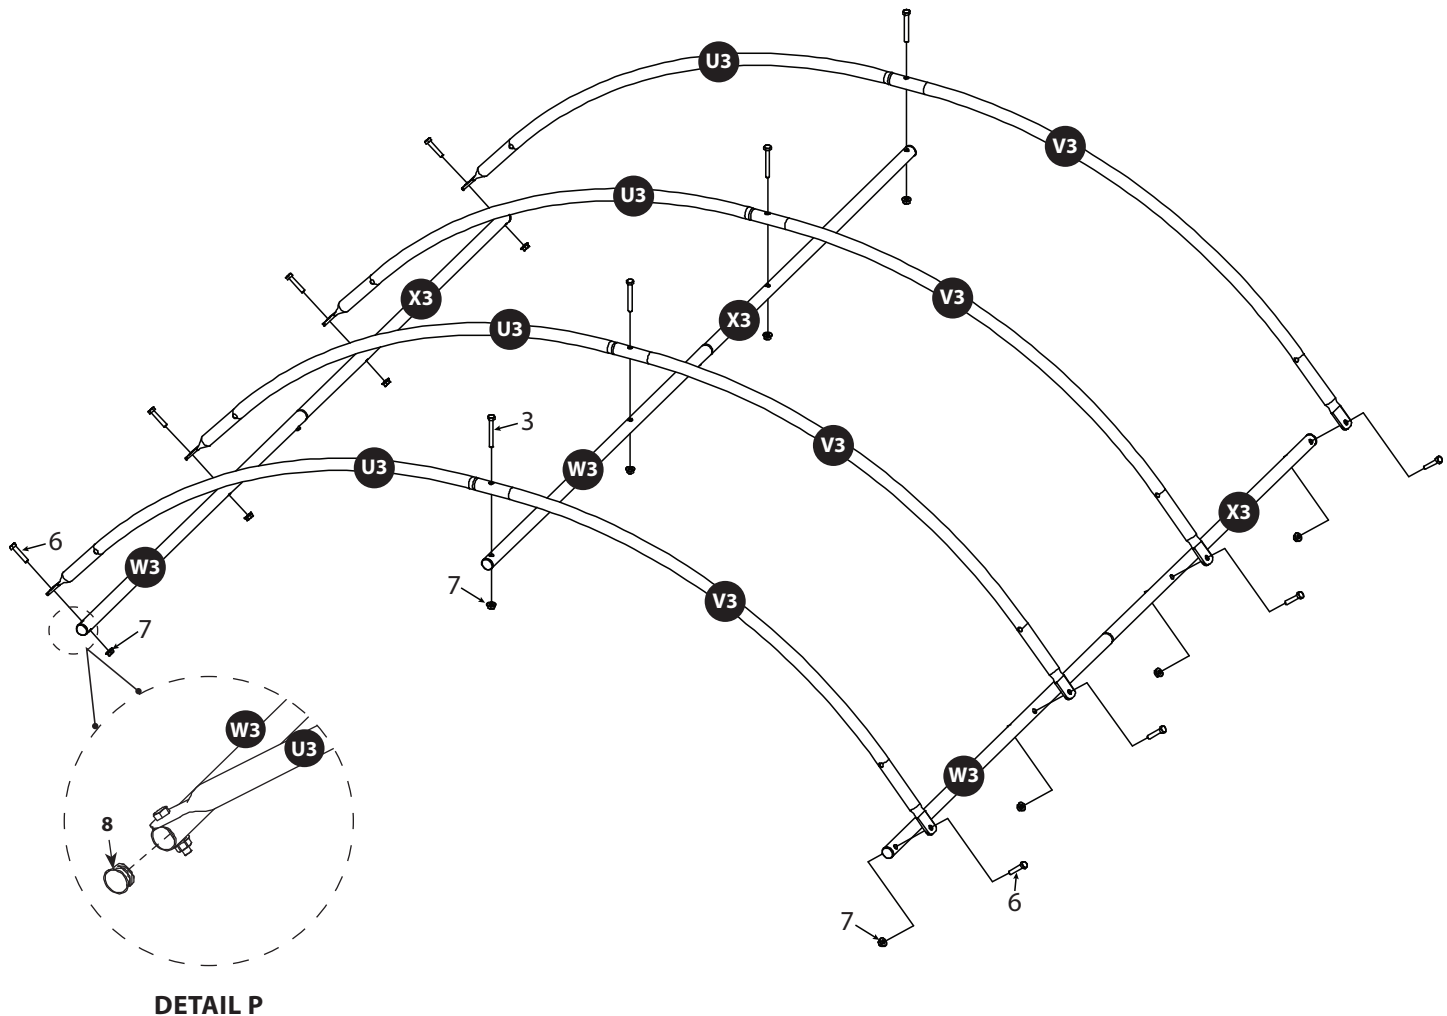

FIGURE 11
27. Slide the four (U3) poles into the four (V3) poles and set aside. **SEE FIGURE 11.**
29. Insert the six end plugs (8) into the ends of the (W3) and (X3) poles. **SEE DETAIL P.**
30. Attach assembled (U3) and (V3) poles to one assembled (W3) and (X3) pole in the center using four M6 x 50 MM bolts (3) and four M6 nuts (7). **SEE FIGURE 11.**
31. Attach the remaining two (W3) and (X3) pole assemblies to the ends of the (U3) and (V3) assemblies using eight M6 X 30 MM bolts (6) and eight M6 nuts (7). **SEE FIGURE 11.**